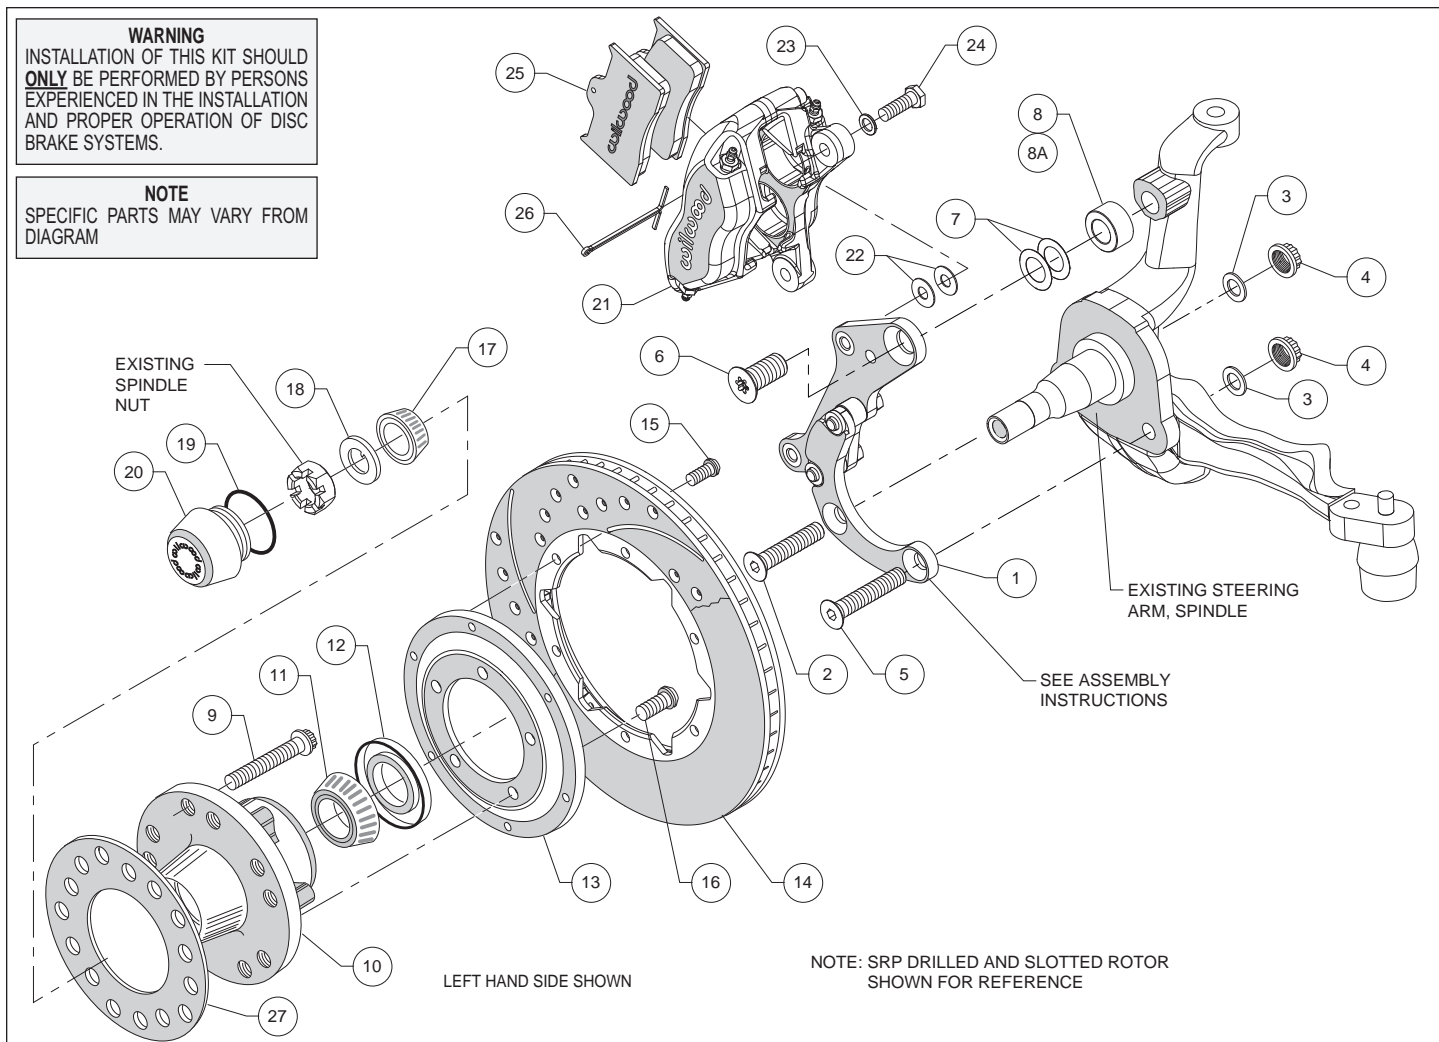
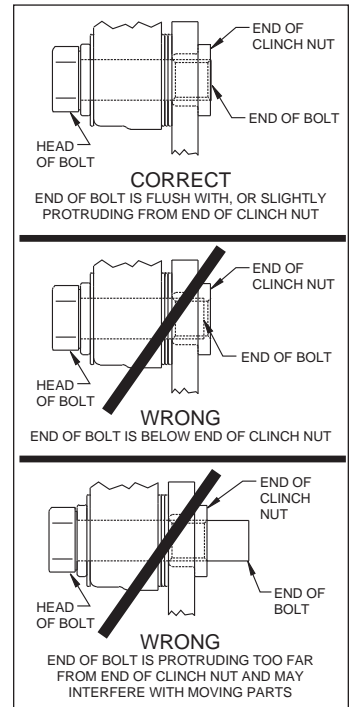

Figure 1. Typical Installation Configuration
Figure 3. Clinch Nut Engagement Diagram
**Assembly Instructions** (numbers in parenthesis refer to the parts list and Figure 1 on the preceding pages): **CAUTION:** All mounting bolts must fully engage clinch nuts. Be sure to check that all bolts are either flush or protruding through flanged side of clinch nut after shimming, Figure 3.
- The caliper mounting bracket (1) has been assembled at the factory for alignment purposes. Loosen the two bolts that secure the brackets together so that the bolts are hand tight only, this will enable the bracket assembly to be adjusted to accommodate various spindle tolerances during assembly. Align bracket with the two lower holes on the spindle face and attach using bolts (2 and 5), washers (3), and secure using lock nuts (4), as shown in Figure 1 and Photo 1. Install bolt (6) through top of bracket while placing spacer (8, Impala drum spindle only, or 8A for Impala and Corvette disc spindles) and shims (7) between bracket and spindle, Figure 1. Initially place two .010" thick shims (7) on the top bolt between the bracket and upright, Figure 1. Temporarily tighten the mounting bolts. Ensure that the flanged heads of the clinch nuts in the bracket are facing outboard, Photo 1. **NOTE:** The bracket must fit squarely against the mounting points on the spindle and be parallel with the mounting face. If not, add or subtract shims (7) on the top bolt between the bracket and spacer. Inspect for interference from casting irregularities, machining ridges, burrs, etc. Torque lock nuts (4) to 65 ft-lb. Remove the upper bolt (6), apply red *Loctite*® 271 to threads, and torque to 140 ft-lb. Remove one at a time the bolts that secure the bracket assembly to each other, apply red *Loctite*® 271 to the threads and torque to 40 ft-lb.
- Pack the large inner bearing cone (11) with high temperature disc brake bearing grease (available from your local auto parts store) and install into the backside of the hub (10), Photo 3.
- Install the grease seal (12) by pressing into the backside of the hub (10), flush with the end of the hub, Photo 3.
- Orient the rotor (14) and the rotor adapter (13) as shown in Figure 1 and Photo 4. Attach the rotor to the adapter using bolts (15). Using an alternating sequence, apply red *Loctite*® 271 to the threads, and torque to 25 ft-lb.
- Mount the adapter/rotor assembly (13/14) to the hub (10) using bolts (16), as shown in Figure 1 and Photo 5. Using an alternating sequence, apply red *Loctite*® 271 to the threads, and torque to 45 ft-lb.
- Pack the small outer bearing cone (17) with high temperature disc brake bearing grease and install into hub (10). Slide the hub/rotor assembly onto the spindle. Secure using spindle washer (18) and spindle nut (19), Photo 6. Adjust bearings per OEM specifications. Install saved OEM nut lock (if any) and a new cotter pin (not supplied).
- Screw dust cap (20) into hub (10), Photo 7. Friction created by the o-ring (19) on the dust cap keeps it from unscrewing. **NOTE:** The O.D. of the existing OEM spindle washer may be larger than the I.D. of the dust cap not allowing it to seat against the hub face. Therefore, use the spindle washer (18) supplied with the kit instead of the OEM washer.
- NOTE:** Please reference the caution statement at the beginning of the assembly instructions. Mount the caliper (21) onto the caliper mounting bracket (1) using bolts (24) and washers (23), as shown in Figure 1. Initially place two .035" thick shims (22) on each bolt between the caliper and the bracket, Photo 8. Temporarily tighten the mounting bolts and view the rotor (14) through the top opening of the caliper. The rotor should be centered in the caliper, Photo 9. If not, adjust by adding or subtracting shims between the bracket and the caliper. Always use the same amount of shims on each of the two mounting bolts. **NOTE:** The end of each bolt must be flush with or slightly protruding from the head of the clinch nut, as shown in Figure 3. If necessary place spare shims between washer (23) and caliper mounting ear to achieve the proper clinch nut engagement. Once the caliper alignment and clinch nut engagement are correct, remove the bolts one at a time, apply red *Loctite*® 271 to bolt threads, and torque to 40 ft-lb.
- Install the disc brake pads (25) into the caliper, with the friction material facing the rotor (14), and secure in place using cotter pin (26), Photo 10.